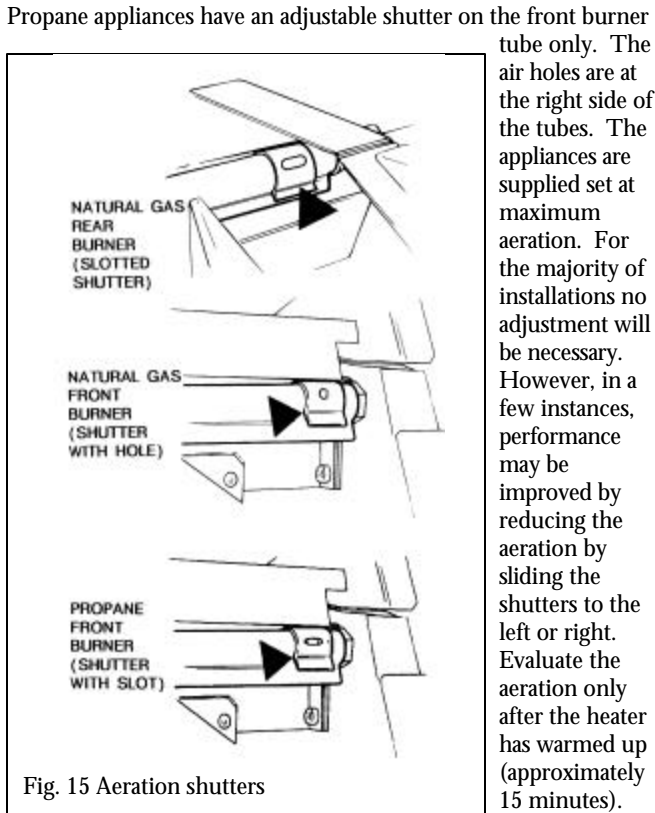

Fig. 15 Aeration shutters
12. AERATION ADJUSTMENT (See Fig. 15)